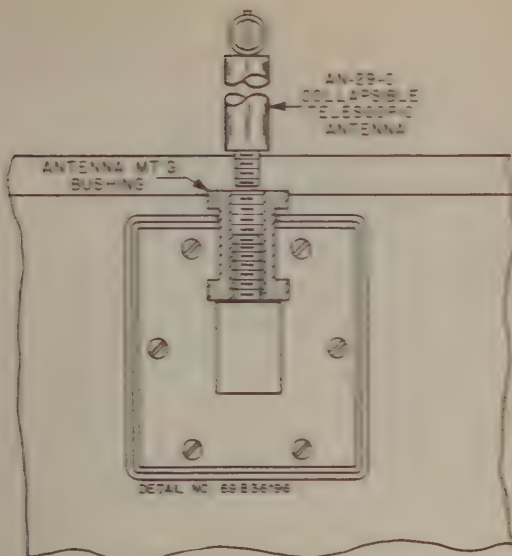

Figure 3A. Radio Receiver and Transmitter BC-654-A. Rear View, Showing Antenna AN-29-C, In Position
(1) Collapsible Antenna AN-29-C is provided for use with the radio receiver and transmitter when it is being operated as a fixed or portable unit. It may be quickly screwed to the antenna terminal which is located on the rear of the receiver and transmitter case. (Fig. 3A.) Antenna AN-29-C is strapped to the top of Radio Receiver and Transmitter BC-659-(*) when not in use. (Fig. 2).
(1) Place Battery Case CS-79-(*) on the ground or other support. Open the case and remove Handset TS-13-(&). See that the battery plugs are properly inserted into the batteries. Close the case cover and latch it. Place the receiver and transmitter on Battery Case CS-79-(*) and fasten the two units together with catch clips. Join the cable connectors of the two units, placing the key in the keyway, and screw the fittings together securely. Extend Antenna AN-29-C to its full length and screw it to the antenna terminal on the rear of the radio receiver and transmitter case, first tightening down the knurled nut securely. (Fig. 3A). Insert Handset TS-13-(&) plugs into the MIC and PHONES jacks on the radio receiver and transmitter panel. *The alignment of the P. A. plate on bands A and B should be checked before actual use in the field.* (Par. 28 or 29).
(2) Turn the switch and volume control knob full ON (to the right). Turn the meter switch to OPER. Turn the channel selector knob to the channel on which communication is to be made. Listen for the station with which communication is desired. Regulate volume to the desired level. To transmit, press the switch on the